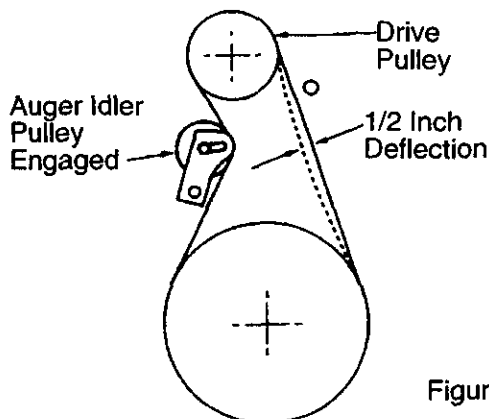

Figure 24
- Press the auger drive lever. Check the tension on the belt (opposite **auger idler pulley**). The belt should deflect about 1/2" with moderate pressure (See Figure 24).